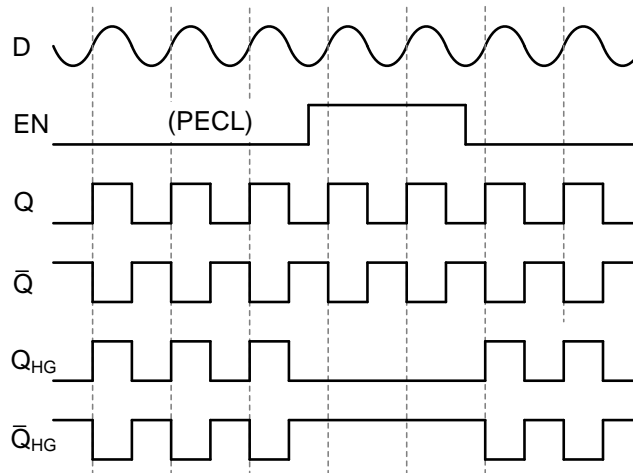

Figure 3 - AZ100LVEL16VRL Timing Diagram
Figure 3 illustrates the timing sequences for the AZ100LVEL16VR in the MLP 16 package or as die. It is shown here with the enable operating in active Low mode with a PECL threshold. This mode is determined by leaving the EN-SEL open (NC). An active High enable with a CMOS/TTL threshold is also an option.